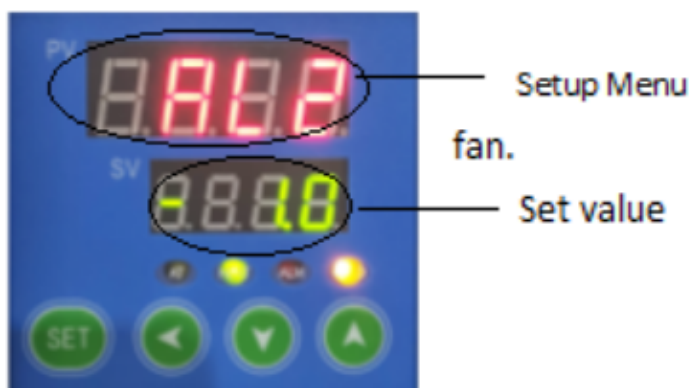

Figure 7
6.2 (See figure 7) When the temperature reaches:  $PV = SV + F_n$ , That is, from high speed to low speed operation, and the yellow light goes out at this time.